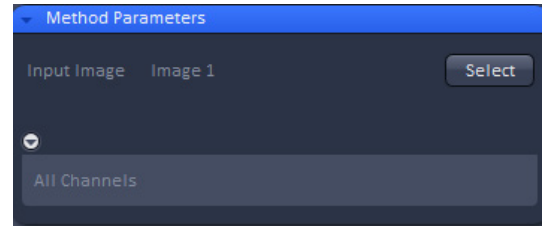

Fig. 507 Methods Parameter of the Copy Duplication Processing tool
- Duplicate the time series. Select the time series in the processing tool **Copy** under the submenu **Duplication** (Fig. 507). Press **Apply** to obtain a copy from your time series.